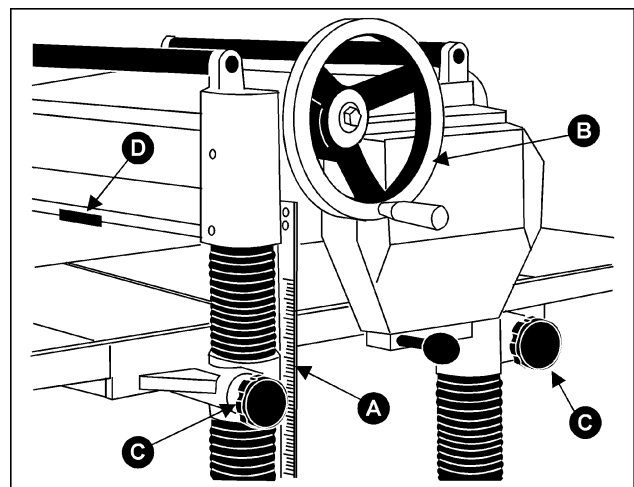
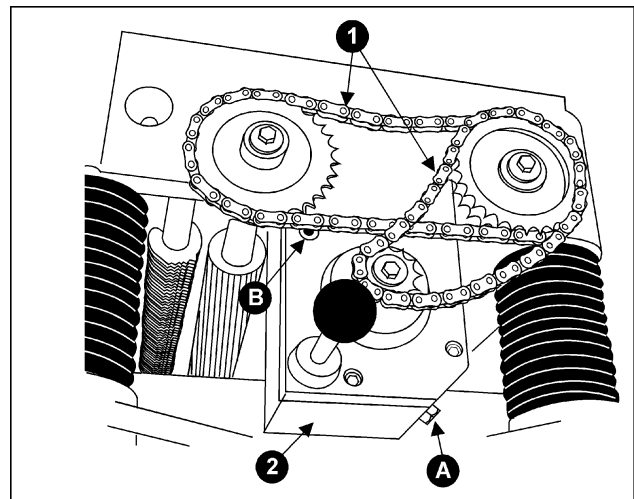

Fig. 31
Fig. 33
The cutting depth scale is a combination inch/metric scale (A, Fig. 31), with a cutting range from 0 to 8" (204mm). The distance of upward or downward movement is controlled by the handwheel (B, Fig. 31). One revolution of the handwheel is .059" (1.5mm). Before moving the table up or down, loosen the lock nuts (C, Fig. 31). After obtaining proper table position, tighten the lock nuts (C, Fig. 31).
Maximum depth of cut is 1/8". A limiter (D, Fig. 31) is provided to limit the depth of cut on full width planing from 3/16" to 1/8".
1. Remove the drain plug (A, Fig. 33) with a 14mm wrench, and remove filler cap (B-Fig. 31). Drain dirty oil thoroughly.
2. Tighten the drain plug (A, Fig. 33)
3. Fill with clean lubricant through hole (B, Fig. 33)
4. Tighten filler cap (B, Fig. 33)